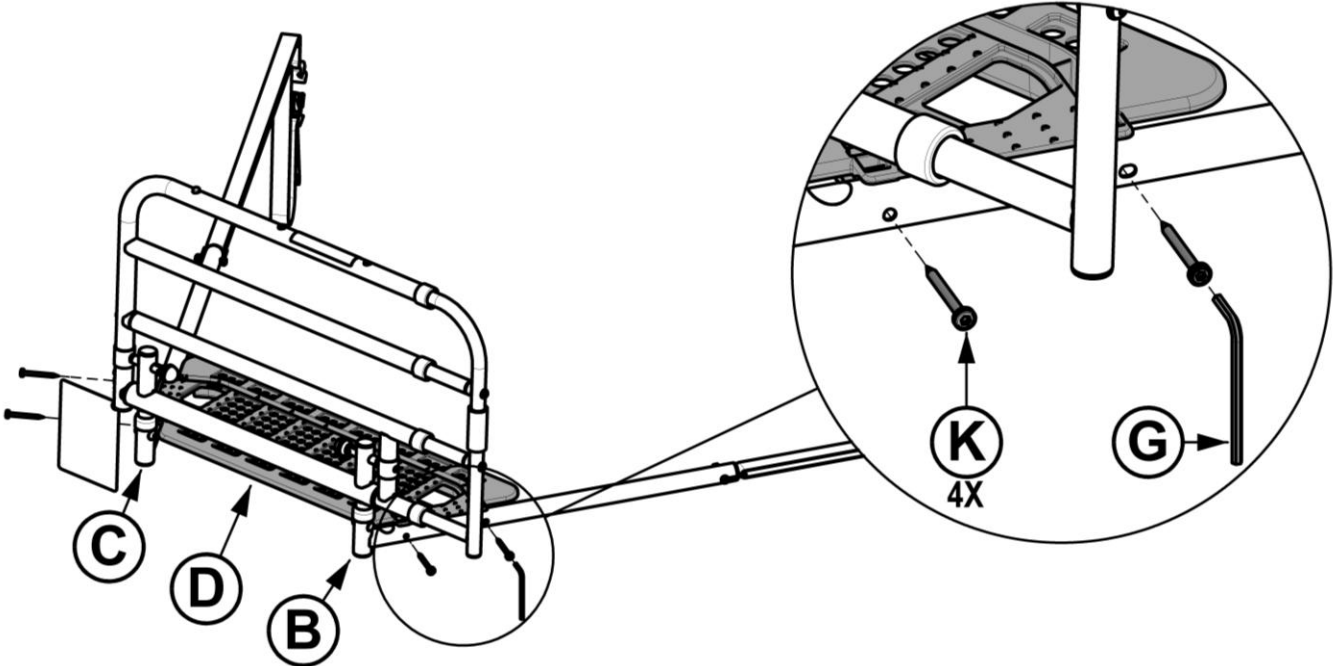

FIGURE 4
4. Secure Safety Guard **D** to Legs **B** and **C** with Screws **K** (4x) using Tool **G**, as shown in *FIGURE 4*.